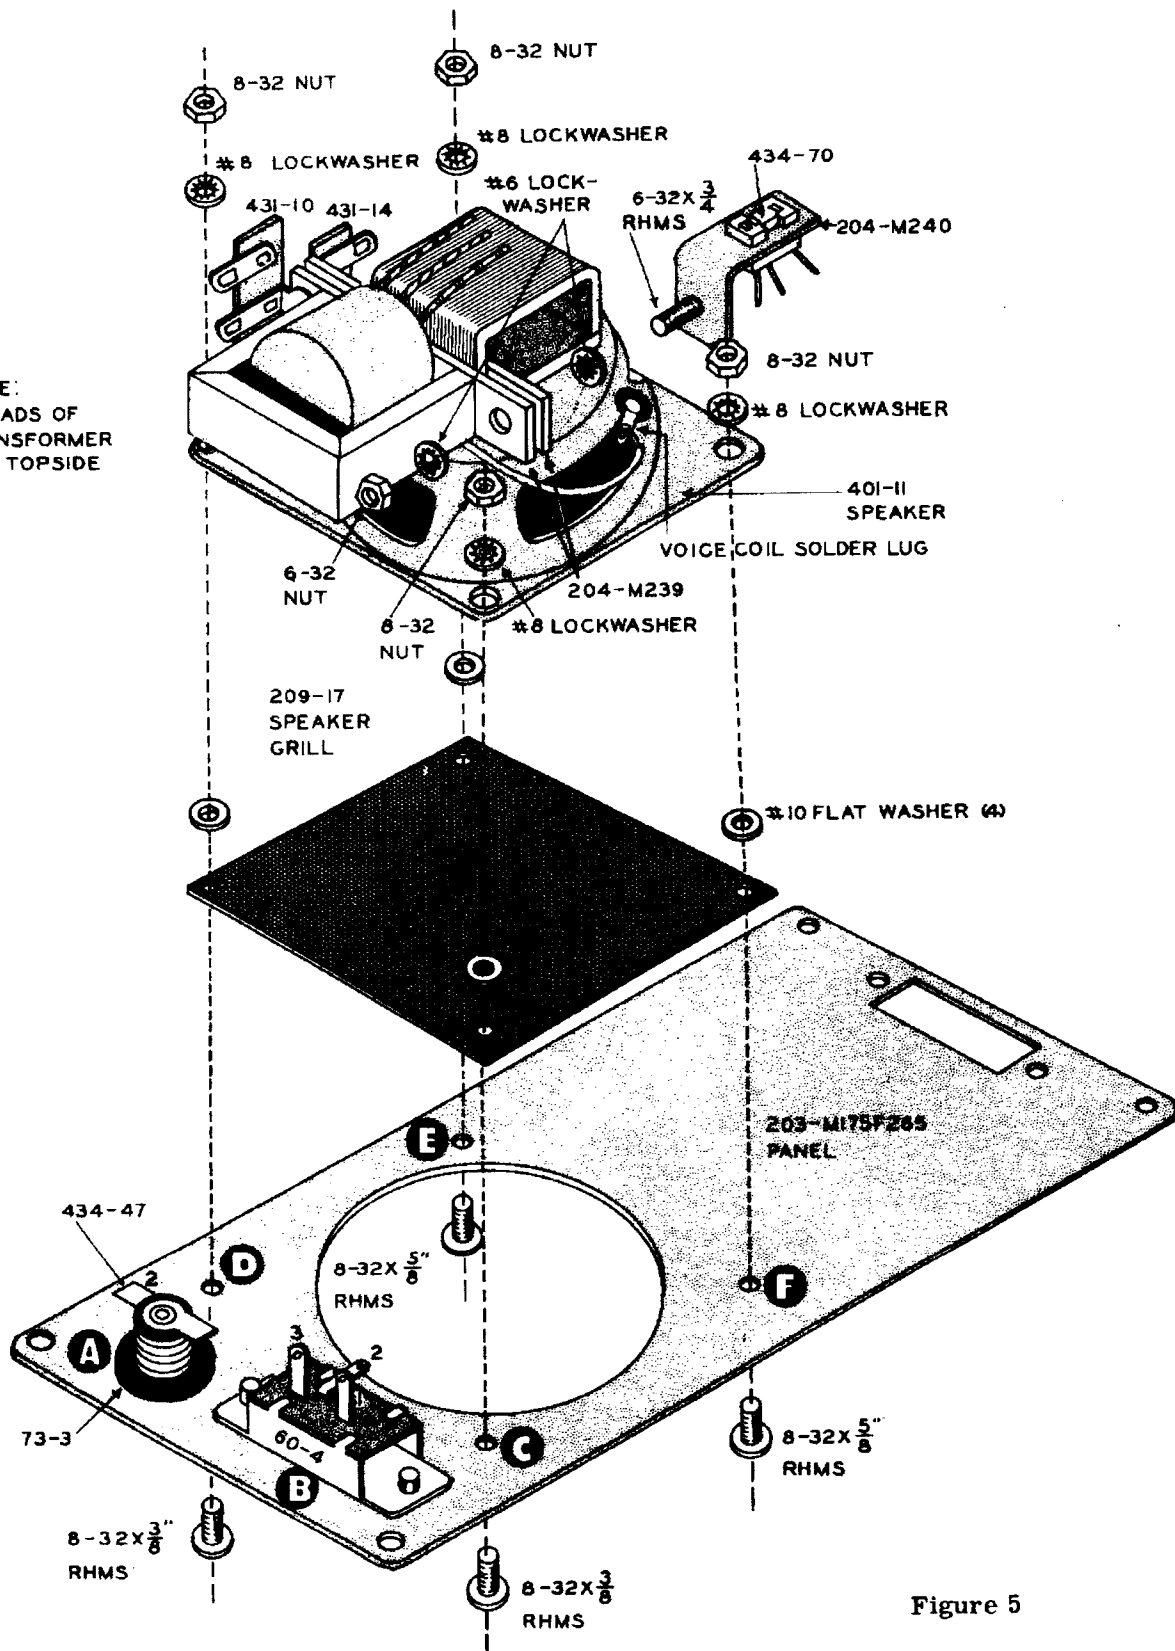

Figure 5
() Refer to Figure 5 on Page 8 and with the yellow lead on one side of the speaker and the black lead on the other, insert the preceding assembly through the speaker frame on the side away from the voice coil solder lugs. Insert the 6-32 x 3/4" screw (which mounts the transistor socket assembly) through a #6 lockwasher, through the two bracket ends, the transformer foot, a #6 lockwasher, and secure with a 6-32 nut. Do not tighten screws until the center of the transformer is aligned with the center of the speaker. Then, use a thin screwdriver to do the tightening while holding the nut (to avoid damaging the transistor socket).
- () Bend the center lug of the SPDT switch down flat and toward the large speaker hole. The other two lugs should be bent outward slightly to clear the output transformer which is mounted in the following steps. Refer to Figure 5.
- () Place the 2 1/2" speaker grill over the large hole in the panel on the panel rear side (with the fuzzy side against the panel). See Figure 5. Insert an 8-32 x 3/8" RHMS through hole C in the panel (the hole next to the switch), through the grill, a flat washer, the speaker frame, a #8 lockwasher and secure with an 8-32 nut. Do not tighten until all the screws are in and the speaker is aligned straight and even with the panel.